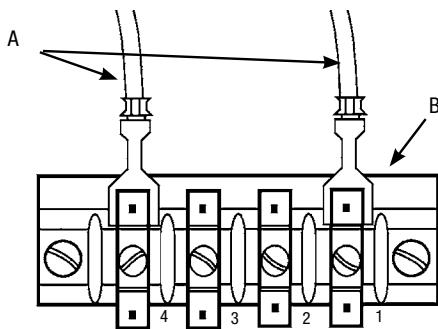

Figure 16-2
3. Unplug the upper heat shoe wires (A) from the terminal block (B). [Figure 16-2]